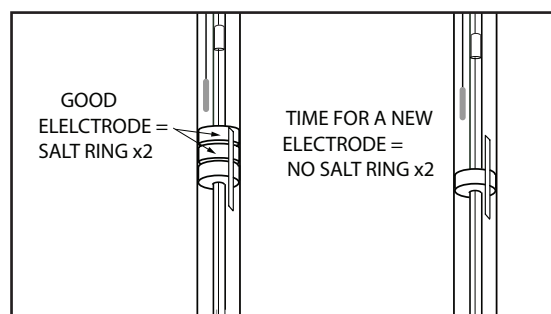

FIG. 2
- 3) Sensor life is determined by the salt rings. If present, sensor is still usable, if gone sensor should be replaced. see FIG 2.